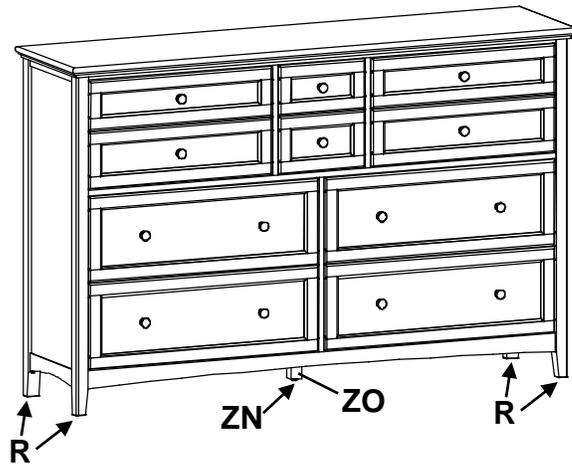

Fig. 4
- Place the unit at its final destination. Rotate the Small Adjustable Glides (R) found at the corners of the unit and the Adjustable Glide with Hex Nut (ZN) at the bottom of the Assembled Foot (ZO) until the unit is level. See Figure 4.